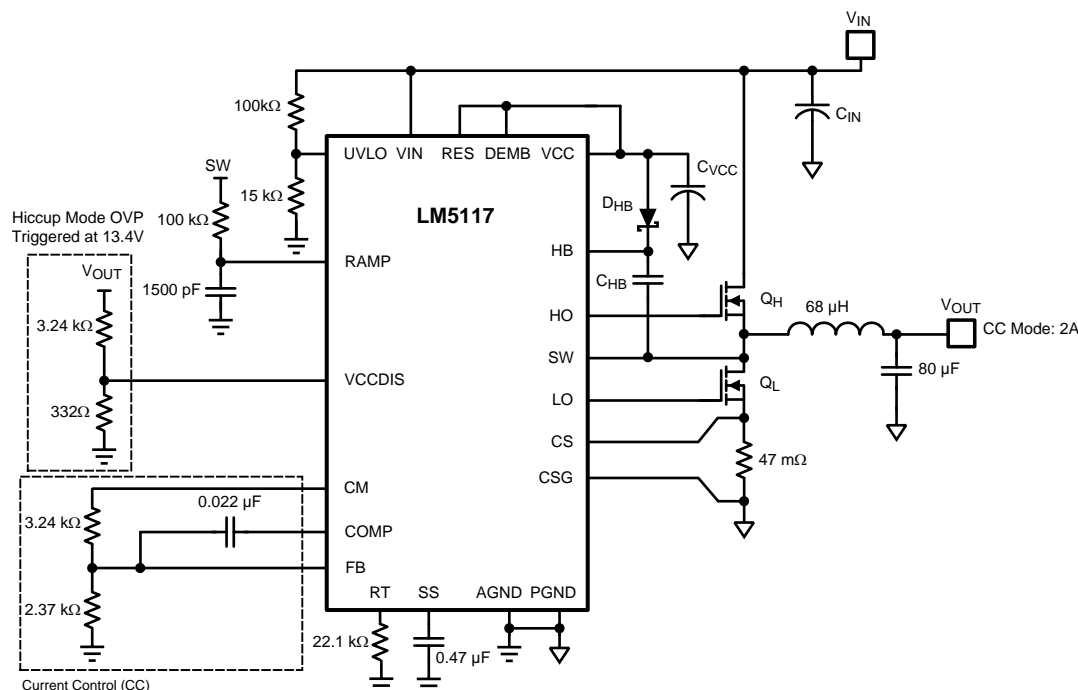

Figure 36. Constant Current Regulator with Hiccup Mode Output OVP
The LM5117 can be configured as a constant current regulator by using the current monitor feature (CM) as the feedback input. A voltage divider at the VCCDIS pin from VOUT to AGND can be used to protect against output over-voltage. When the VCCDIS pin voltage is greater than the VCCDIS threshold, the controller disables the VCC regulator and the VCC pin voltage decays. When the VCC pin voltage is less than the VCC UV threshold, both HO and LO outputs stop switching. Due to the time delay required for VCC to decay below the VCC UV threshold, the over-voltage protection operates in hiccup mode. See Figure 36.